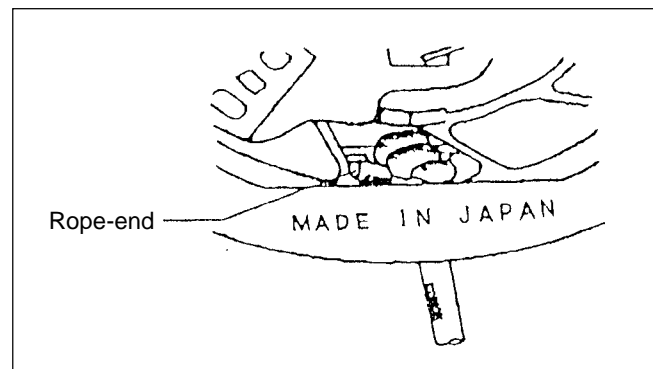

Fig. 10-16
- 2: Put the rope-end-knot in the reel paying attention that it will not touch the case. (Fig.10-16)